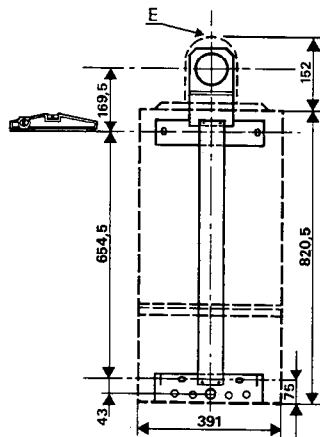

Fig. 18
- d) Assemble the mounting bracket made up from 4 pieces (fig. 18) using 4 thread forming screws.